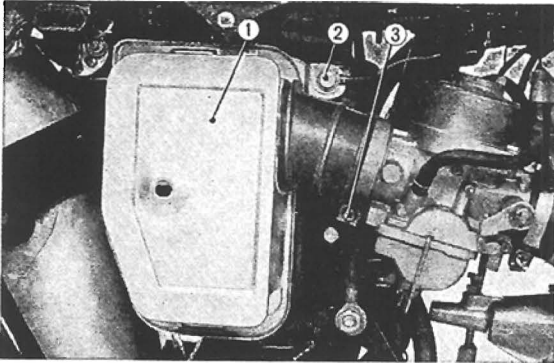

Fig. 4.57 Removing the air cleaner
- ① Check this point
3. Air cleaner element can be separated from the frame by removing the air cleaner connecting tube clamp and the air cleaner mounting bolt. (Fig. 4.57)